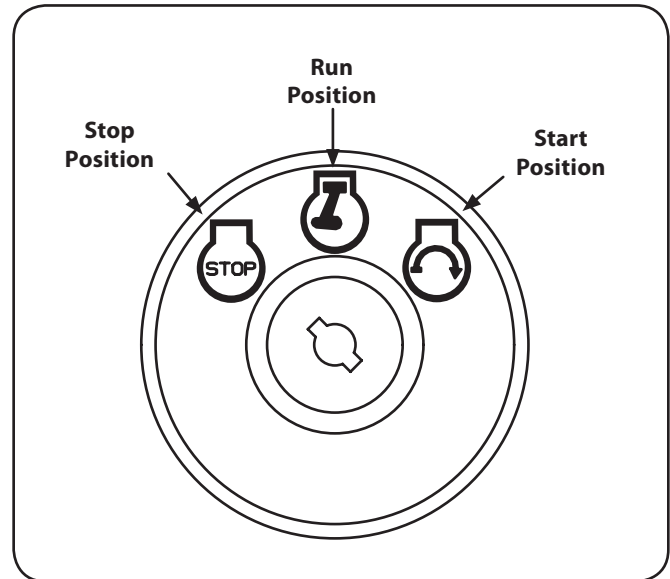

Figure 5-1
2. Move the gear shift lever into the neutral (N) position.
5. Turn the ignition key clockwise to the START position. After the engine starts, release the key. It will return to the RUN position. See Figure 5-1.